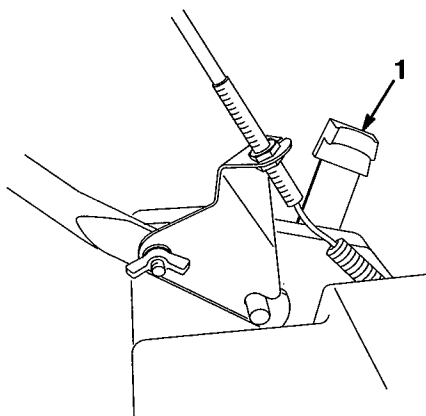

Figure 18
1. To change cutting height pull wheel height adjustment lever toward wheel and move to the desired position (Fig. 18).